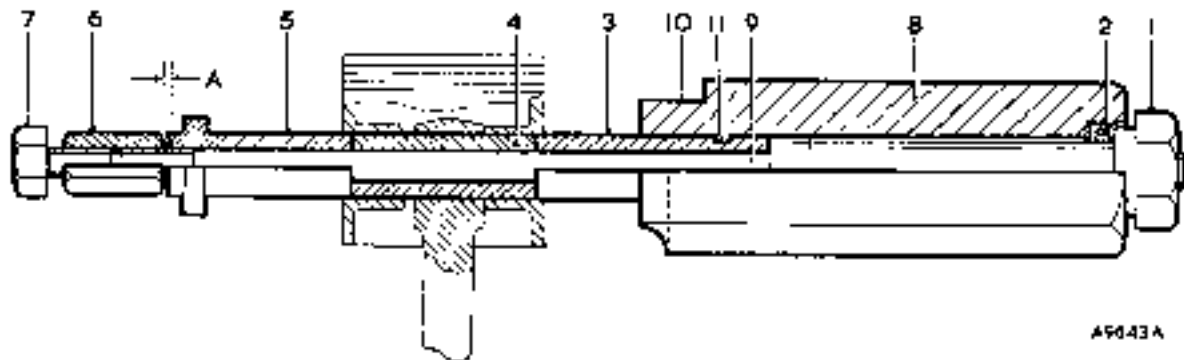

Fig. Aa.4
- (4) Retain the hexagonal body (8) of Service tool 18G 1002 in a vice with the out-out (10) uppermost (see Fig. Aa.4).
- (5) Screw the large nut (1) back until it is flush with the end of the centre screw (9), push the screw and nut forward until the nut contacts the thrust race (2).
- (6) Slide the parallel sleeve (3), short length diameter first, on to the centre screw up to the shoulder.
- (7) Place the piston assembly on the centre screw, then fit the remove/replacer bush (5), longest diameter portion towards the piston.
- (8) Screw the stop nut (6) onto the centre screw and adjust it until there is approximately $\frac{3}{16}$ in. (.8 mm.) end-play in the whole assembly, ensuring that the parallel sleeve and the remove/replacer bush are correctly located in the gudgeon pin bores on both sides of the piston.
- (9) Lock the stop nut securely in position with the lock screw (7).
- (10) Check that the curved face of the body is clean, then slide the piston assembly carefully into position against the curved face. Check that the piston rings are over the out-out in the tool body.
- (11) Screw the large nut (1) up to the thrust race (2).
- (12) Hold the lock screw (7), not the stop nut, with a spanner, and turn the large nut (1) until the gudgeon pin is withdrawn from the piston.